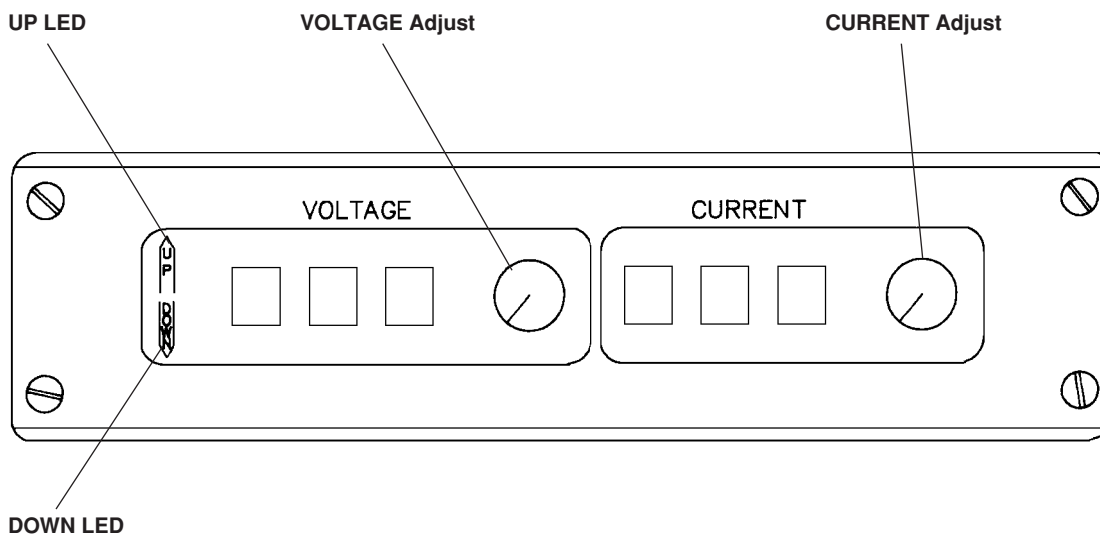

Figure 6-3 Digital Remote (DR) V/C Front Panel Controls and Indicators
#### Digital Remote (DR) V/C Module (Fig. 6-3)